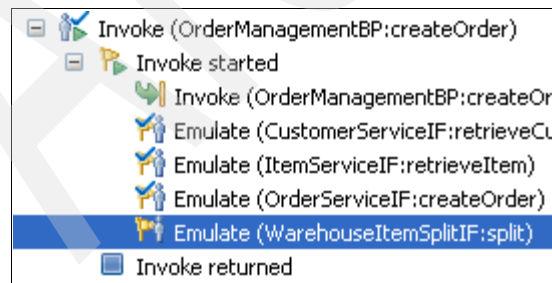

Figure 3-211 WarehouseItemSplitIF emulation point
1. Set the emulation values for Customer, Item, and Order. Then, the next emulation point is WarehouseItemSplitIF, as shown in Figure 3-211.